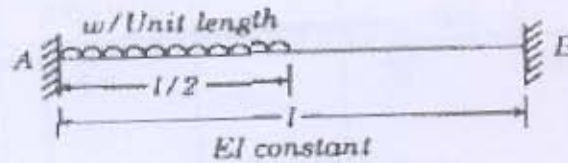

Figure 10
- (i) Find the fixed end moments for the fixed beam shown in Figure 10 by method of column analogous.